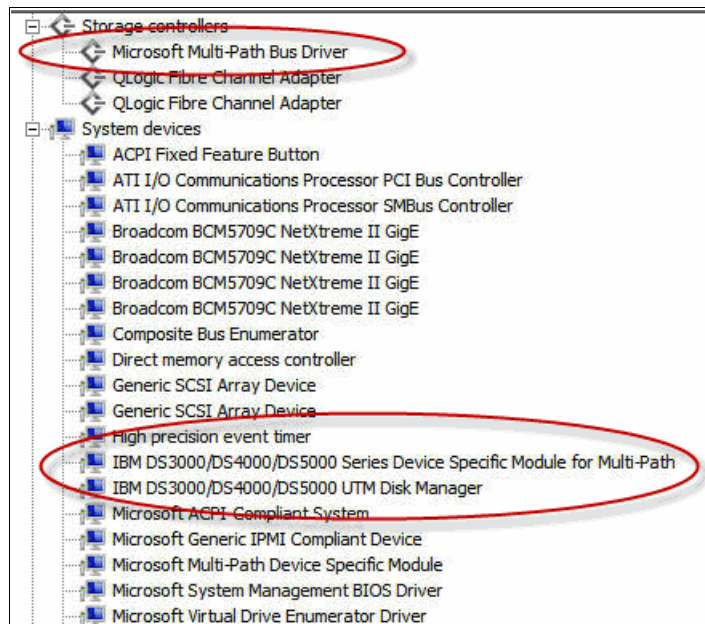

Figure 2-87 New multi-path shown in device manager
1. After you have rebooted the Windows system, go to the Device Manager to check the devices. As you can see in Figure 2-87, it has added three new devices. Under the Storage controllers, it added the Microsoft Multi-Path Bus Driver, and under System devices, it added the **DS5000 Multi-Path** and **Disk Manager**. If you do not install IBM System Storage DS Storage Manager 10 on the host and just use the onboard multi-path, it will not function correctly.